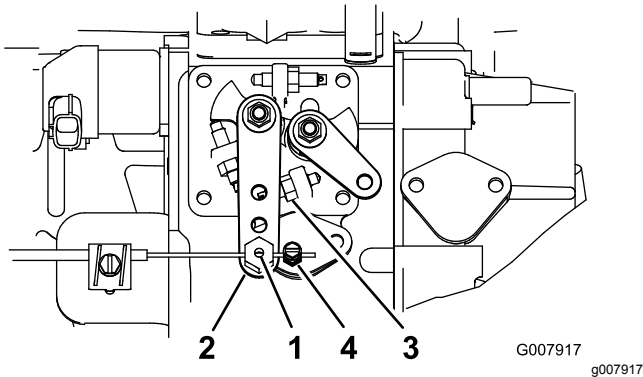

Figure 52
2. Loosen the throttle-cable connector, on the throttle cable, next to the injection-pump lever (Figure 52).
3. Hold the injection-pump-lever arm against the high idle stop (Figure 52).